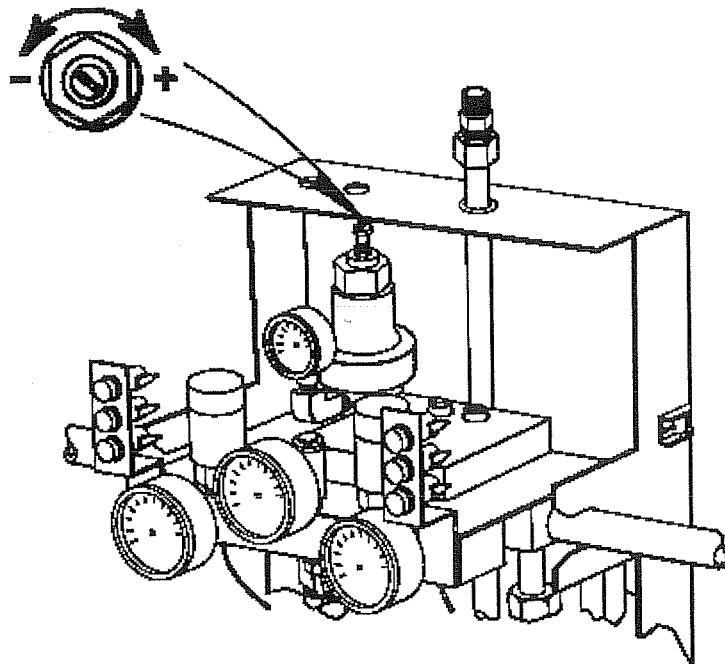

Figure 4-4
1. Set the dome regulator pressure to 30 psi. (Figure 4-4)